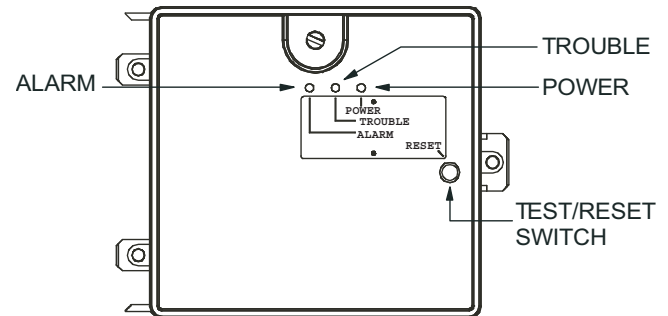

Fig. 47 — Controller Assembly
- The contacts on the controller's supervisory relay switch positions. (See Fig. 47.)